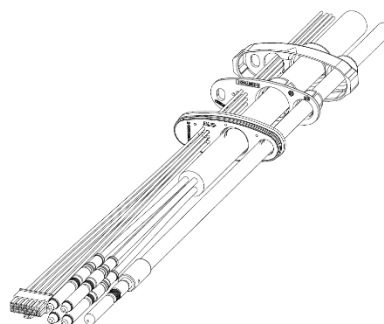
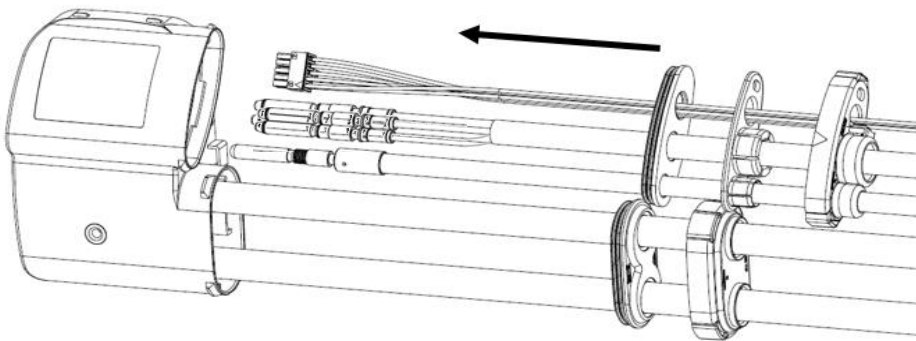
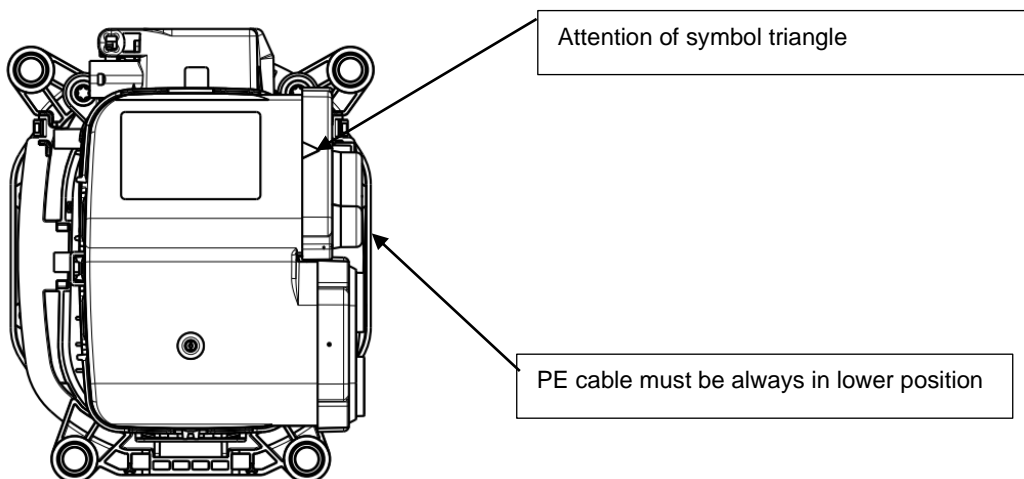

Figure 19 (schematic; crimp geometry not shown)
Figure 26
Figure 27
After 12P Micro Mate'N'Lock connector housing assembly the subassembly of cables with cable exit components is complete, see figure 19
Pass the AC cable subassembly (figure 19) through the AC slot in Cable Exit (item 7) as shown in figure 26. Pay attention on the symbol triangle and rectangle at the AC Seal Cover (figure 27). Grounding cable is always in lower position at the cable exit.